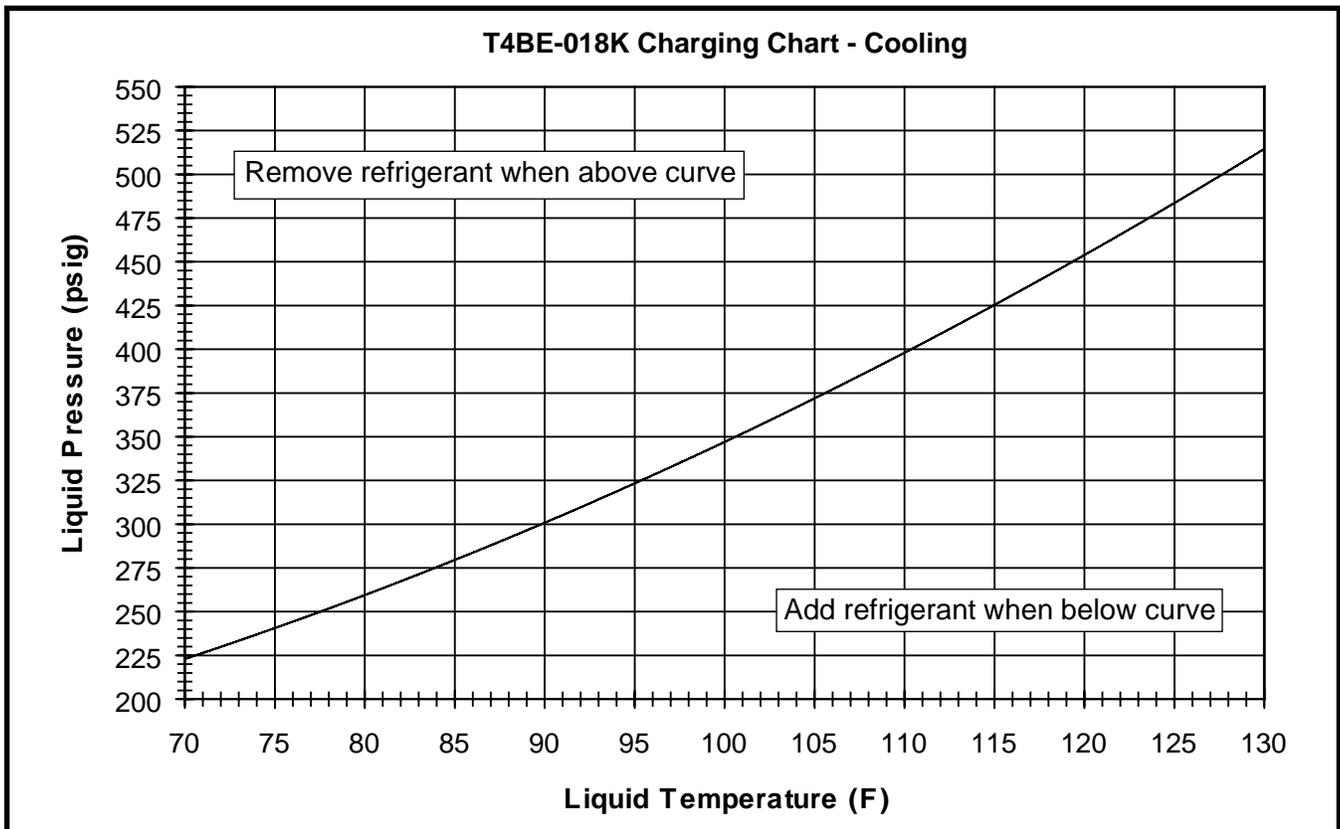

Figure 6. Charging Chart for T4BE-018 Series (1.5 Ton Units) - TXV Matches
- Cooling mode charging charts are applicable only to matched assemblies of NORDYNE equipment and listed airflows for the indoor coil. T4BE outdoor units with non-AHRI listed indoor coils are not recommended and deviations from rated airflows or non-listed combinations may require modification to the expansion device and refrigerant charging procedures for proper and efficient system operation. Refer to Figures 6 - 12 (pages 11 - 14) and Tables 3 - 9 (pages 16 - 18) for correct system charging.
3. Determine the required liquid refrigerant pressure from Figures 6 - 12 (pages 11 - 14).
- Charging charts are valid for a variety of indoor, return air conditions and are most influenced by the outdoor ambient temperature, outdoor fan operation and the unit operating voltage. Before using these charts, make sure the unit is in a stable operating mode. As shown in the charging charts (Figures 6 - 12, pages 11 - 14), the ideal system sub-cooling can vary over the range of operation. Reference the charts to determine the ideal amount of sub-cooling for a given liquid pressure. Units charged to other values will not perform at the rated unit efficiency (EER) or rated Coefficient of Performance (COP) in heating mode.